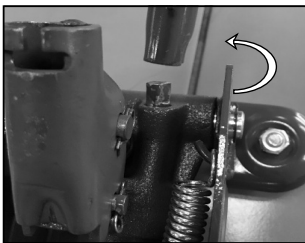
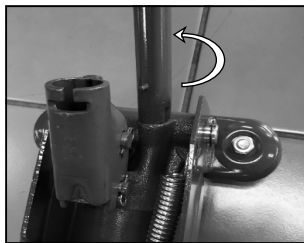

fig 4.
fig 5.
1. Use the handle assembly to twist the release valve 1-1/2 turns counter-clockwise [fig.5].
1. **Check oil level** - Open release valve with the handle assembly [fig.4] not more than two twists and press down on head cap (1) [fig.9] to ensure lifting arm (2) is fully down.
1. Close release valve by twisting the handle assembly clockwise until firm resistance is felt [fig.4].
2. Inspect position of head cap (1) beneath support area, making sure it is centred and properly engaging support area.
3. Slowly pump the handle assembly until the head cap (1) contact the vehicle's lift point.
4. To lift, continue pumping until vehicle reaches desired height. Pay attention to head cap (1) position as vehicle is being raised to be sure there is no danger of support area slipping off or lifting from the head cap (1).
6. **SLOWLY** twist jack handle assembly counter-clockwise [fig 5] to ease vehicle down onto jack stands.
2. Slowly twist the handle assembly counter-clockwise (fig.4) until the jack just begins to lower.